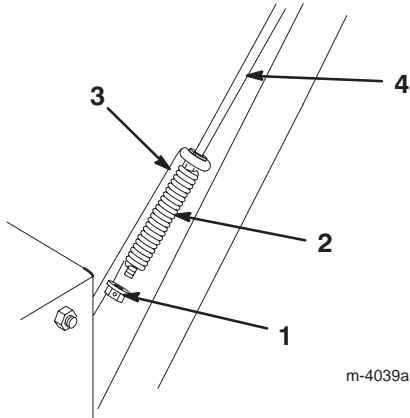

Figure 9
1. Slide the spring over the bottom of the upper traction rod (Fig. 9).
2. Thread a flange locknut (flange side up) onto the bottom of the upper traction rod below the spring (Fig. 9).